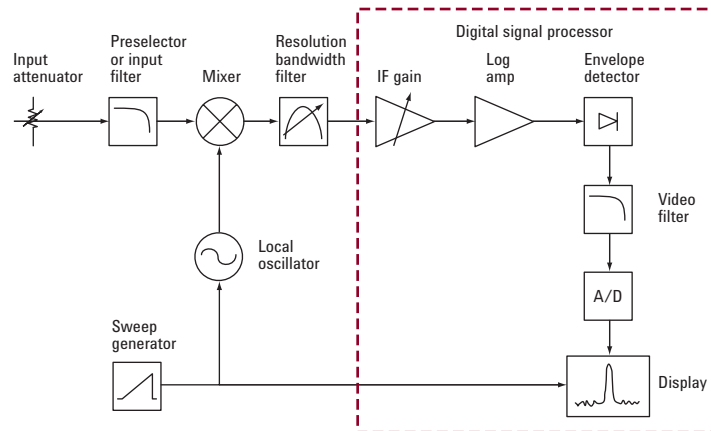

Figure 2. Block diagram of a superheterodyne spectrum analyzer
Figure 2 depicts a simplified block diagram of a swept-tuned superheterodyne spectrum analyzer. Superheterodyne means to mix or to translate in a frequency above audio frequencies. In the analyzer, a signal at the input travels through an attenuator to limit the amplitude of the signal at the mixer, and then through a low-pass input filter to eliminate undesirable frequencies. Past the input filter, the signal gets mixed with a signal generated by the local oscillator (LO) whose frequency is controlled by a sweep generator. As the frequency of the LO changes, the signals at the output of the mixer, (which include the two original signals, their sums and differences and their harmonics), get filtered by the resolution bandwidth filter (IF filter), and amplified or compressed in the logarithmic scale. A detector then rectifies the signal passing through the IF filter, producing a DC voltage that drives the vertical portion of the display. As the sweep generator sweeps through its frequency range, a trace is drawn across the screen. This trace shows the spectral content of the input signal within the selected frequency range.
When digital technology first became viable, it was used to digitize the video signal, as shown in Figure 2. As digital technology has advanced over the years, the spectrum analyzer has evolved to incorporate digital signal processing (DSP), after the final IF filter as shown by the dotted box, to be able to measure signal formats that are becoming increasingly complex. DSP is performed to provide improved dynamic range, faster sweep speed and better accuracy.